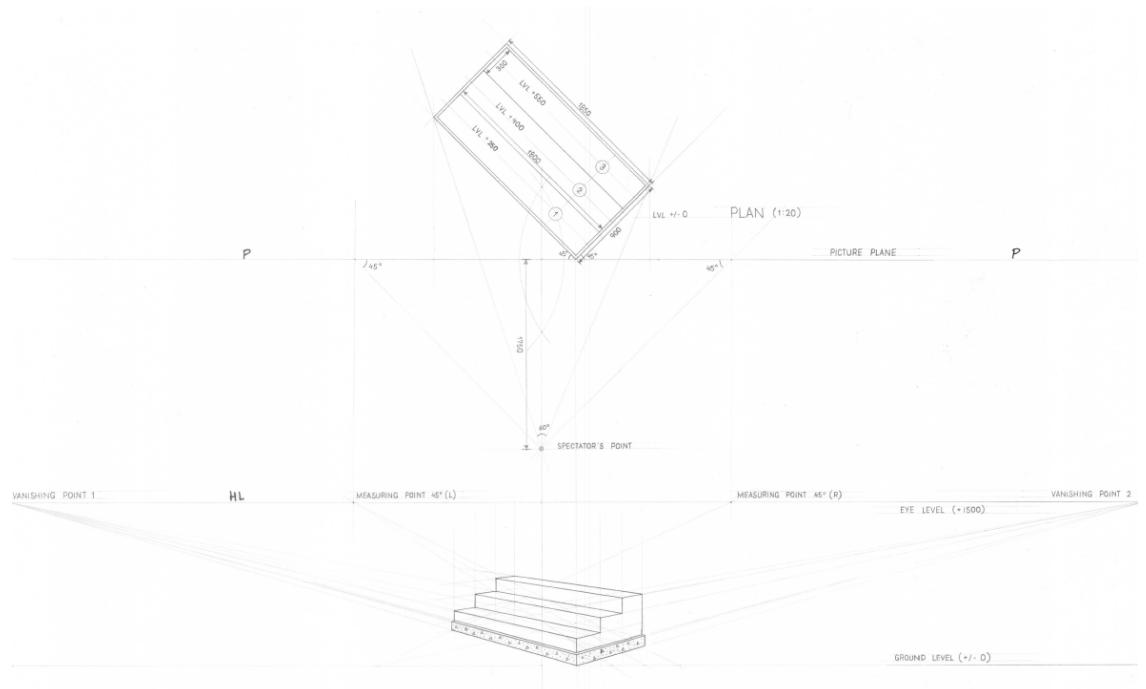

Fig 5.12 Steps in Two Point Perspective
1. Assume a line indicating Picture Plane (PP). Object is kept on the ground hence its plan is drawn on line PP. object is making an angle of 45 degree with the picture plane.
4. Draw one horizontal line (HL) above ground level at a height equal to observer's eye level i.e. 1.5m.
6. from S join all the points of object up to PP and then project them vertically downward up to ground level (GL).
7. point A touches the PP hence true height and perspective height of this point will be same. Transfer true height of the object of this line and converge them to vanishing points V1 and V2. These converging lines cut vertical projections of B and D at B1 B2 and D1D2 (upper and lower points of object). Hence sides A1 D1 A2 D2 and A1 B1 and A2 B2 are drawn **Fig 5.12.**